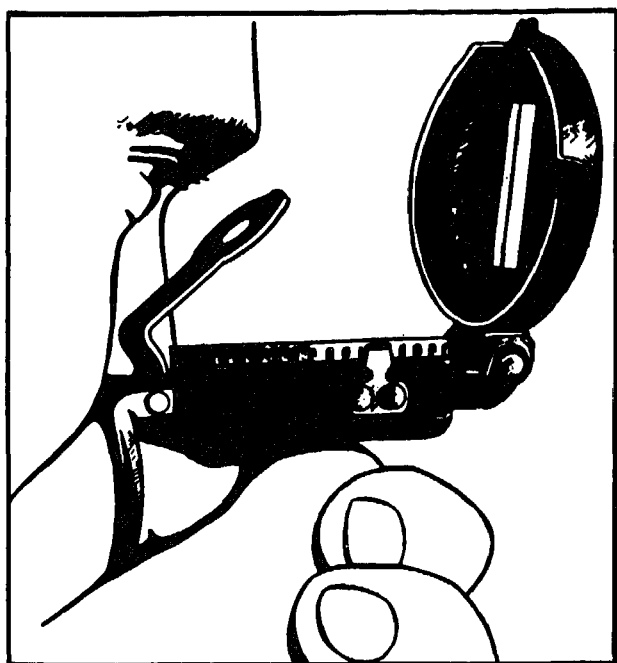

Figure 15-27.—A method of holding the compass.
1. Open the cover of the compass so it forms a right angle with the compass. Move the eyepiece so the compass dial is visible through the lens, as shown in figure 15-27.